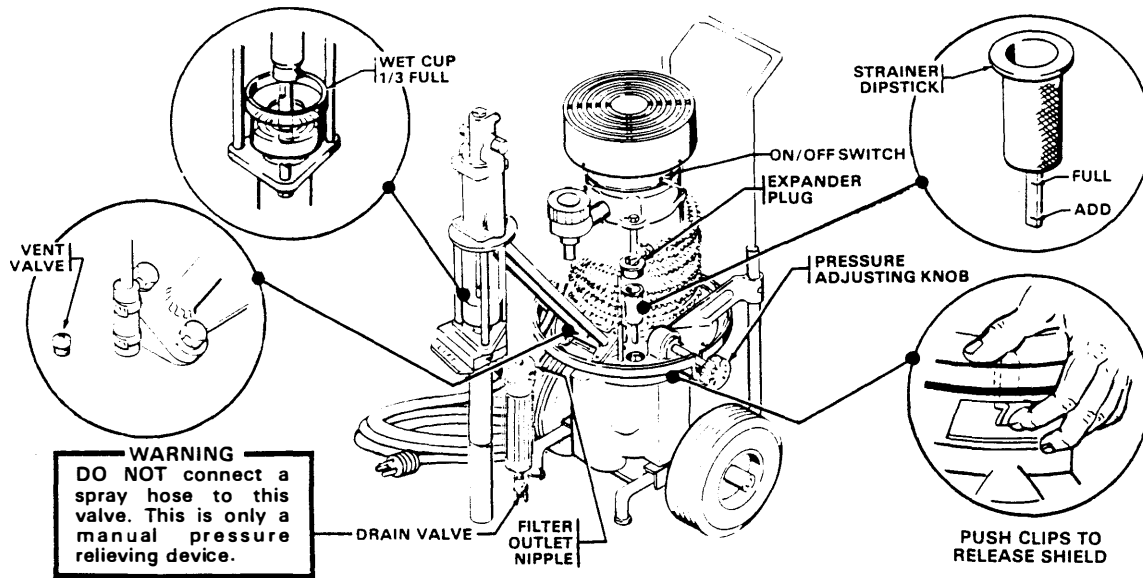

Fig 1
### 1. Check Hydraulic Fluid (Refer to Fig 1.)
### 2. Connect Hose and Gun (Refer to Fig 1.)
### 3. Fill Packing Nut/Wet-Cup (See Fig 1.)
- Be sure the ON/OFF switch is OFF. Refer to Fig 1. Then plug the cord into a grounded electrical outlet at least 20 ft (6 m) away from the spray area.
- d. Turn the pressure adjusting knob all the way counterclockwise to lower the pressure setting. Refer to Fig 1.